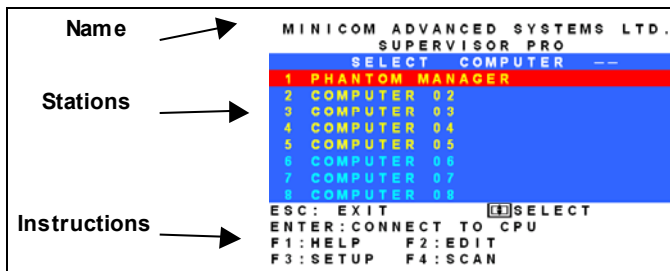

Figure 7 The OSD
3. Press **Shift** twice. The OSD appears. See Figure 7. There are 3 parts to the OSD. You can enter data in the Name and Stations sections.
Press **Shift** twice. The OSD appears. See Figure 7 above.